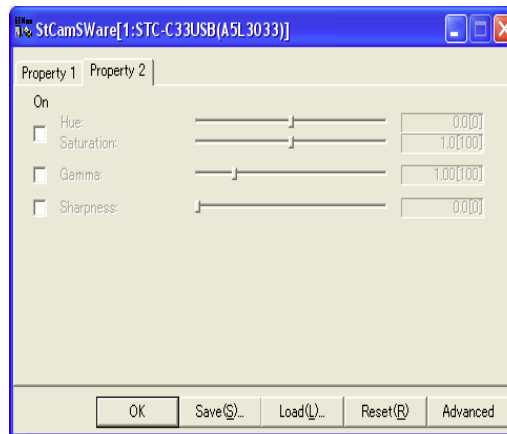

Figure 27: Settings Simple Menu Property 2 Tab
2) Menu Bar (Refer to the bottom of Figure 27 on page 14).